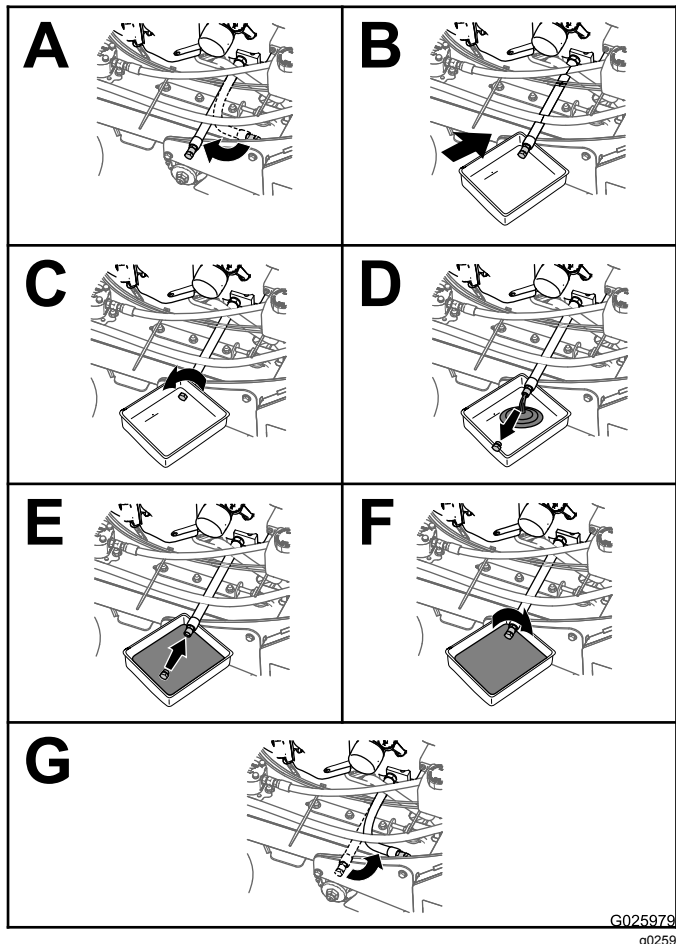

Figure 31
3. Change the engine oil as shown in Figure 31.